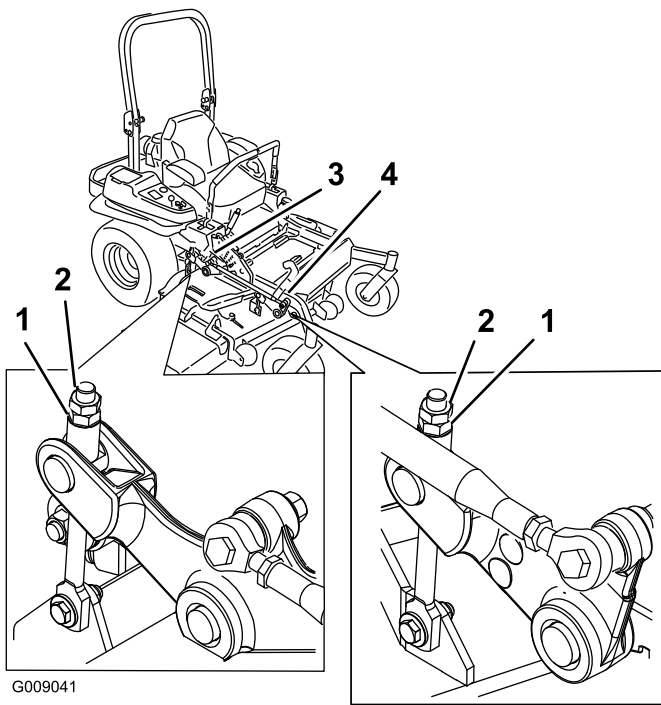

Figure 83
10. Fine-tune the adjustment nut on the front deck lift assembly by turning it (Figure 83).
- Fine-tune the adjustment nut on the front deck lift assembly by turning it (Figure 83).